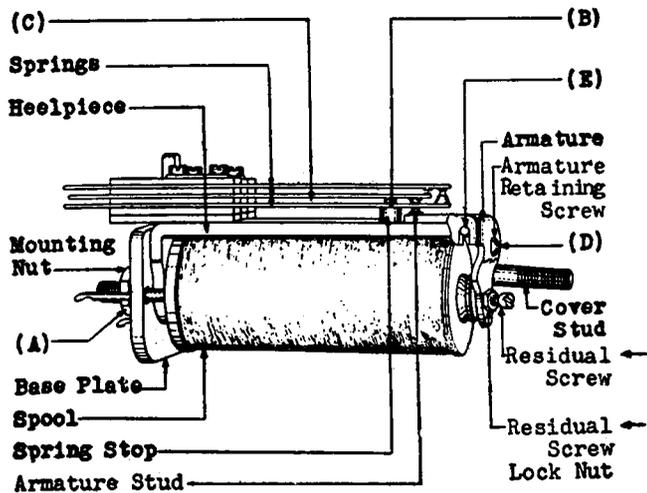

Fig. 3—207-type Relay
2.11 **Relay Mounting:** Fig. 3(A)—The spool shall be fastened securely to the heelpiece and the heelpiece shall be fastened securely to the base plate. The base plate shall be fastened securely to the mounting strip.
2.14 **Stud and Stop Clearance:** Fig. 3(B)—The studs and stops shall not rub on the springs through which they pass when the armature is moved.
2.15 **Separation Between Springs:** Fig. 3(C)—There shall be a clearance between springs designed never to touch in the operated or unoperated position of the relay of
2.16 **Tightness of Retaining Screws:** Fig. 3(D)—The armature retaining screw shall be held securely in place.
2.17 **Armature Movement:** Fig. 3(E)—The armature shall move freely in its bearings.